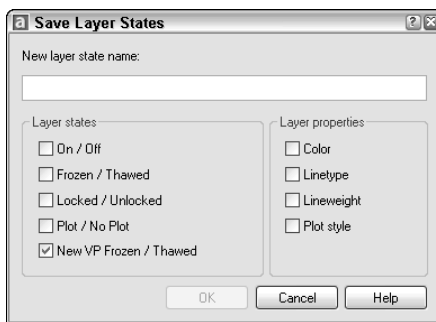

Figure 11-11: The Save Layer States dialog box
3. Click Save State to open the Save Layer States dialog box, shown in Figure 11-11.